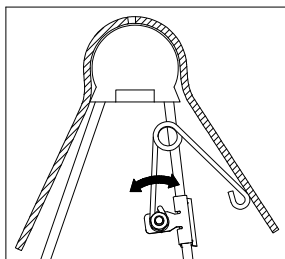

Figure E2: Cutaway view of driver pivot arm and saddle.
2. **Set coupler angle.** Adjust the resting angle of your coupler plate by rotating the spring on the driver side pivot arm. Pulling the top of the spring away from the cab will increase the angle of the coupler plate. Set the angle of the coupler so that it will tilt away from the cab when coupling, see Figure E2. Tighten the 1/4" nut once the spring's orientation is set.